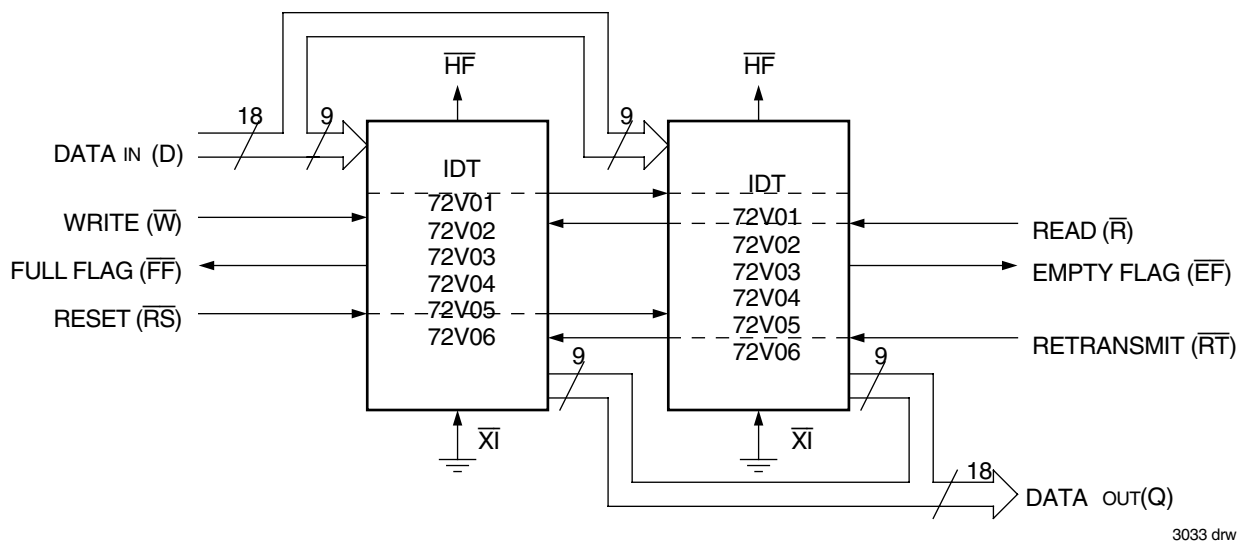

Figure 13. Block Diagram of 512 x 18, 1,024 x 18, 2,048 x 18, 4,096 x 18, 8,192 x 18 and 16,384 x 18 FIFO Memory Used in Width Expansion Mode
Word width may be increased simply by connecting the corresponding input control signals of multiple devices. Status flags ( $\overline{EF}$ ,  $\overline{FF}$  and  $\overline{HF}$ ) can be detected from any one device. Figure 13 demonstrates an 18-bit word width by using two IDT72V01/72V02/72V03/72V04/72V05/72V06s. Any word width can be attained by adding additional IDT72V01/72V02/72V03/72V04/72V05/72V06s (Figure 13).
2. For Flag detection see section on Width Expansion and Figure 13.